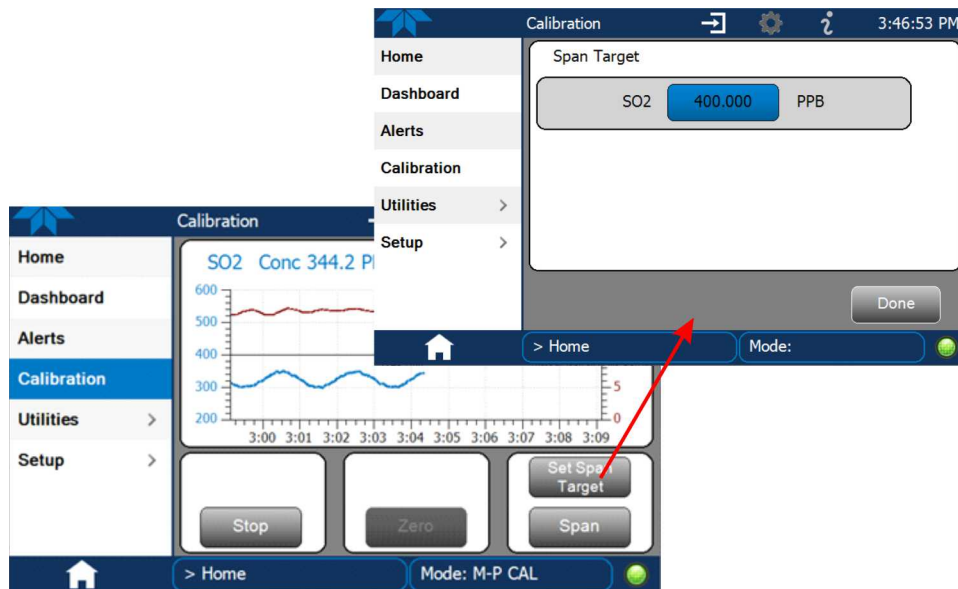

Figure 5-3. Span Calibration Set Target
- a. Press the Set Span Target button and enter the gas concentration (Figure 5-3).